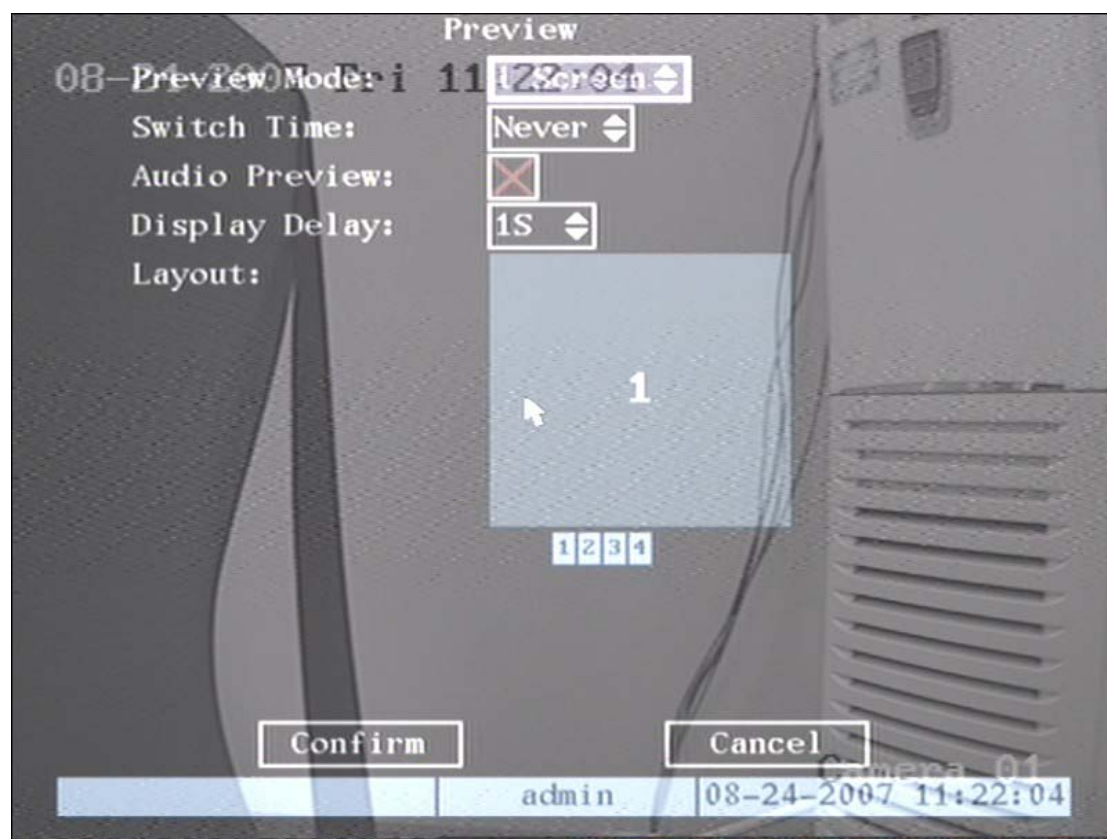

Fig 5.19 Setup preview mode
Step 1: Enter into “Preview” menu: In the main menu, move the “Active Frame” to “Preview” icon and press **【ENTER】**, you will enter into “preview” menu as shown in fig 5.19